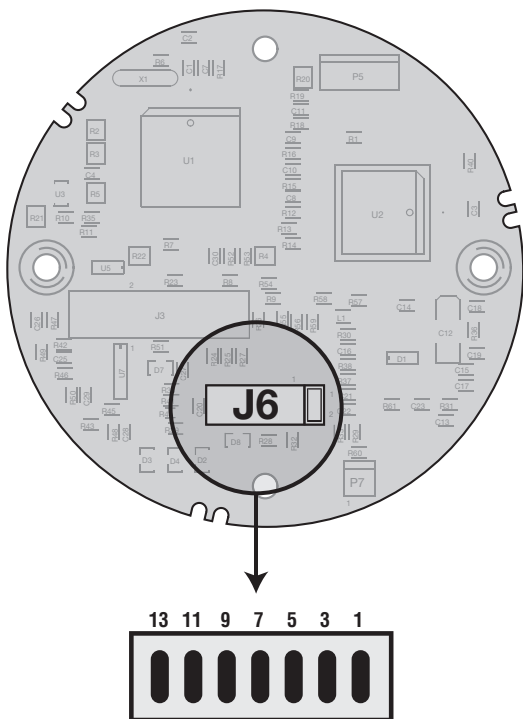

Figure 10
2. Remove the jumper from J6. Refer to Figure 10.